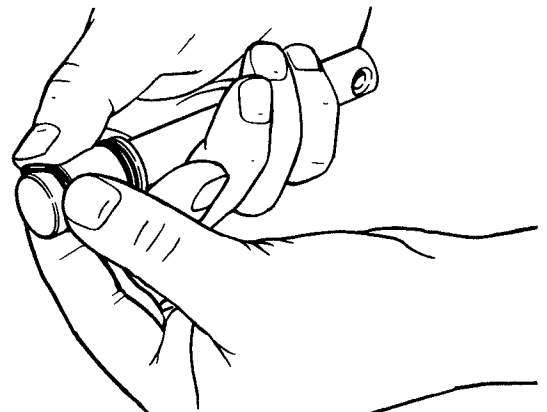

Figure 24. Removing "O" Ring
- I. Remove all "O" Rings from parts by first wiping off the lubricant using a clean paper towel. Then squeeze the "O" Ring upward with a dry cloth (Fig. 24). When a loop is formed, roll out of the "O" Ring groove.